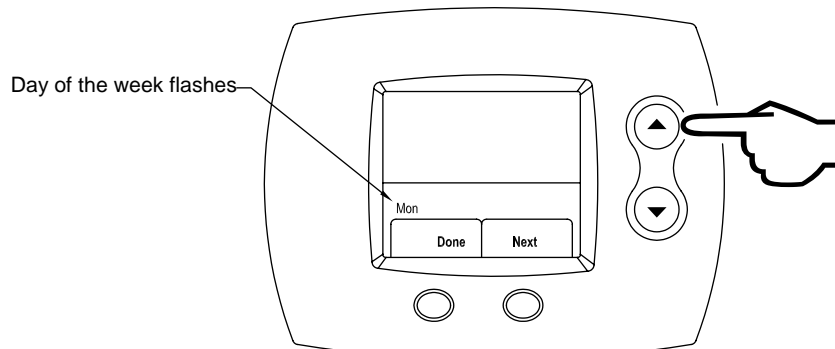

Figure 76
Step 2: Monday is flashing initially. Using the **UP** (increase day) or **DOWN** (decrease day) buttons, scroll until the day that needs to be edited is shown. This is shown in Figure 76.